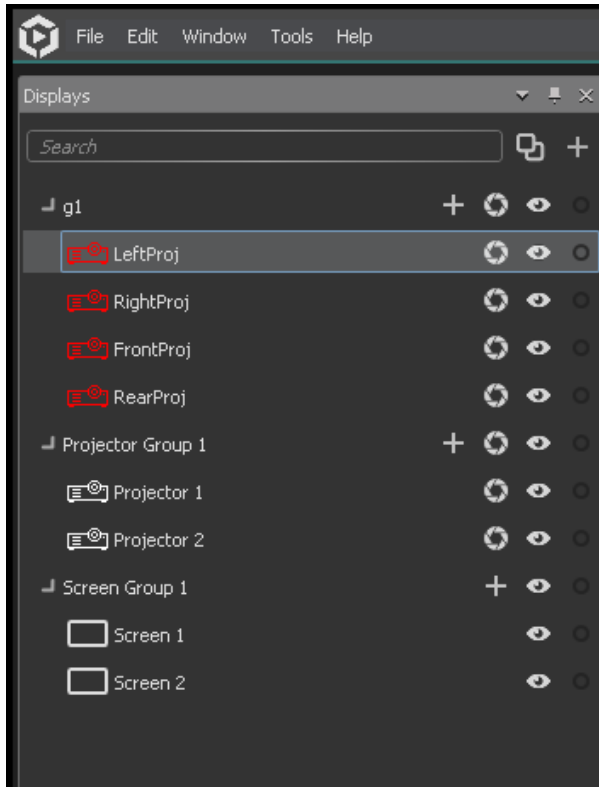

Figure G.5. Displays groups
1. Open the Displays pane and select the projector or screens the position or parameters of which you wish to modify. (See *Figure G.5, “Displays groups”*.)